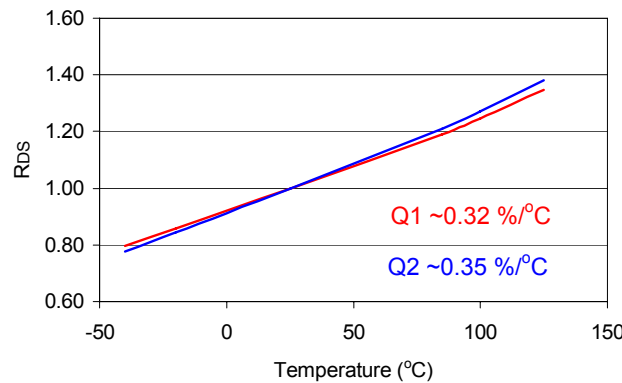

Figure 8. R_{DS} vs. Temperature, Normalized ($V_{CC} = V_{GS} = 5V$)
- K_T = the normalized temperature coefficient of the low-side MOSFET (Q2) from Figure 8.